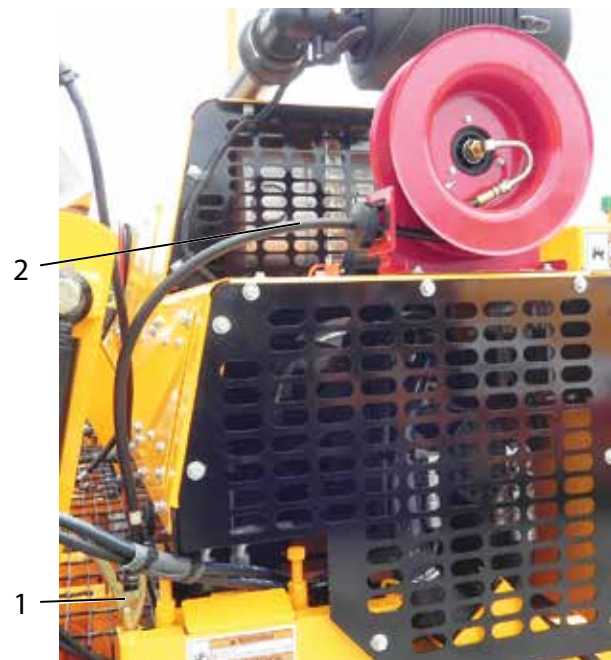

Figure 4-32. Spray Down System
1. Pull out the amount of hose needed and set Spray Down Switch **(Figure 3-3,9)** to SPRAY DOWN (up) position. Squeeze the wand handle **(Figure 4-32,1)** and spray. Release wand handle when done spraying.